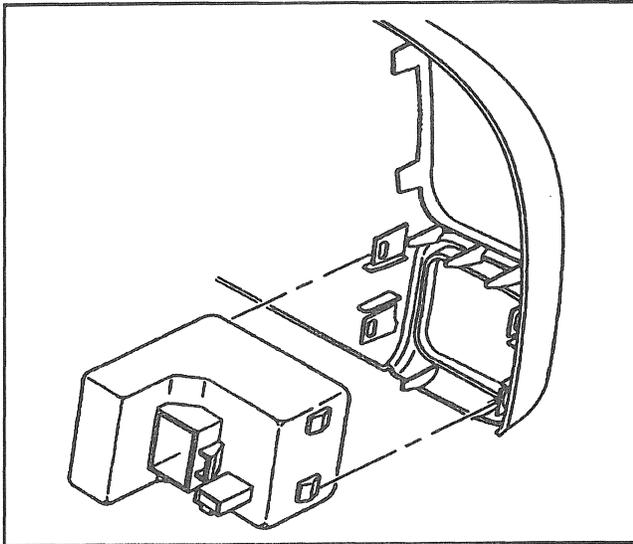

Figure 37—Headlamp Switch
#### Remove or Disconnect (Figure 37)
**↔** Install or Connect (Figure 37)